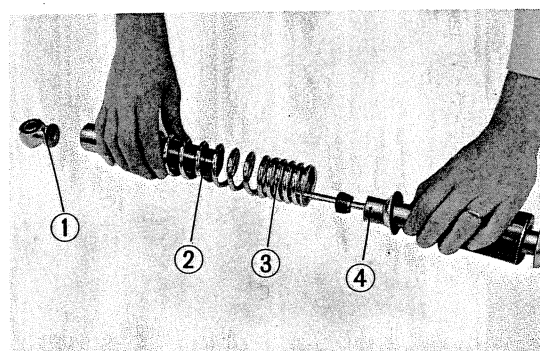

Fig. 140 Rear shock absorber assembly
- When assembling the rear shock absorber complete, the large pitch end of spring goes toward the top. (Fig. 140)